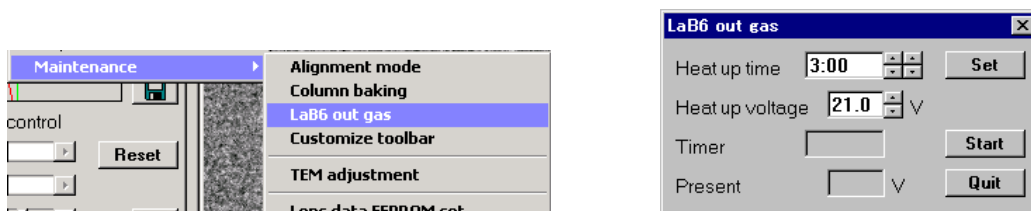

Fig. 4-35 LaB6 outgas Menu & LaB6 outgas Window
- (1) As shown in Fig. 4-35, click LaB6 outgas on the Maintenance menu and the LaB6 outgas window will open.